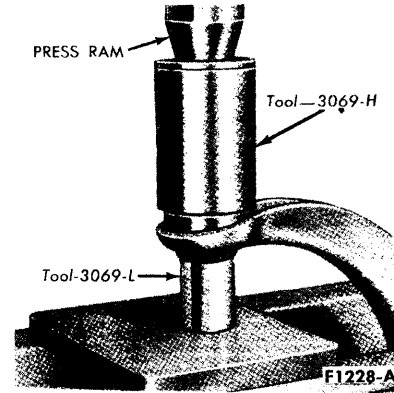

FIG. 10—Removing Upper Arm Rear Bushing
4. Remove the upper arm rear bushing using the support cup, tool 3069-H, and the remover, tool 3069-L (Fig. 10).